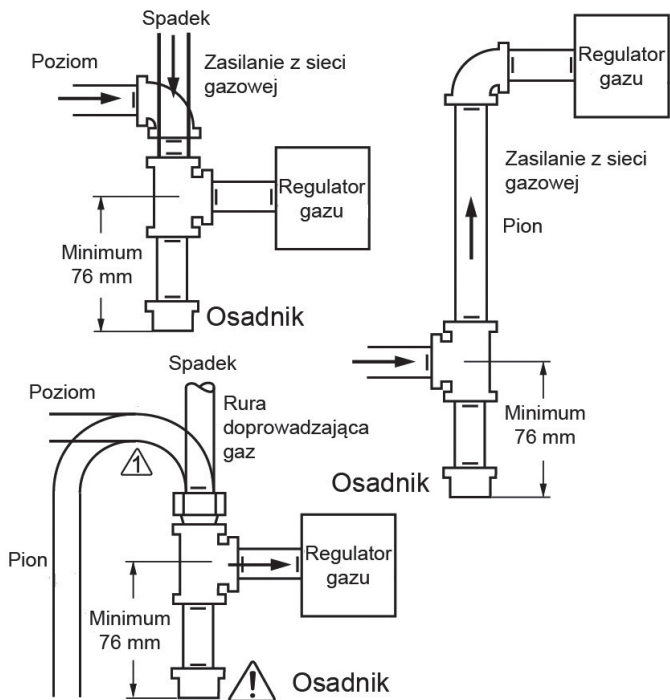

Fig. 12 How to install a settler (if required)
First, make sure that the connected device is intended to be supplied with the type of gas contained in the gas installation. All the necessary information about the required parameters of the gas can be found on the nameplate of the stove. Before connecting the gas supply pipes, it is necessary to purge them to remove metal filings and other contaminants from their interior. The automatic gas control should be protected from moisture and dust. These factors may cause irreparable damage to individual components. Gas supply pipes to the stove should be equipped with a ball valve of 1/2 inch in diameter. Individual elements of gas installation cannot be sealed using a Teflon tape or PTFE tape (Please use the sealing elements supplied with the unit). If the gas installation needs to be connected to a settler, install it according to Fig. 12. The settler protects the controller from gas contaminants.
3. The pressure regulator is in the upper part of the controller enclosure. To enable the adjustment, remove the plastic cap (Fig. 12).